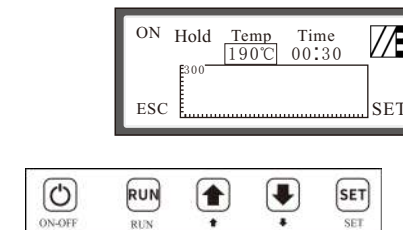
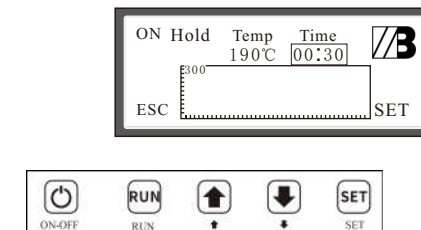

Fig. 12
Fig. 13
- (4) Press "SET" button to switch "SOLDERING" to highlighted state, and press "PAGE DOWN" button to switch to "HEAT PRESERVATION". Press "SET" Button again to switch "TEMPERATURE" to highlighted state. Press "PAGE UP" button and "PAGE DOWN" button to conduct the setting of "TEMPERATURE" as shown in Fig.12. The heat preservation setting range shall be lower than the soldering temperature. Press "SET" Button again to switch to "TIME" setting to highlighted state as shown in Fig.13, and then Setting the hold time.